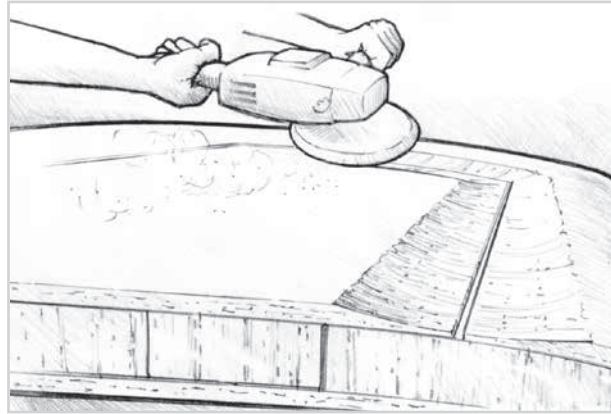

Figure 5-7 Grind a 12- to-1 bevel on the edges of the joint, so the joint repair patch can be faired flush with the surface.
4. Grind a 12-to-1 bevel on both edges of the joint and laminate a repair patch over the joint to restore skin continuity (Figure 5-7). The bevel will provide a recessed bonding area for the application of fiberglass fabric and allow the patch to be faired flush with the surface. The objective and procedure for patching the joint are the same as repairing damaged skins. Follow the procedure described in Section 5.3.5.